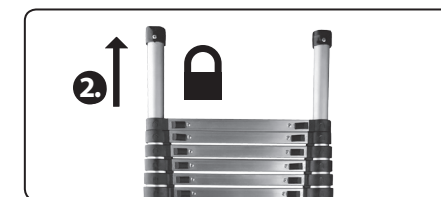

Fig. 4
- Pull out the end (support) parts of the tubes one after the other, so that an audible lock-in sound is made in the extended position (fig. 4).